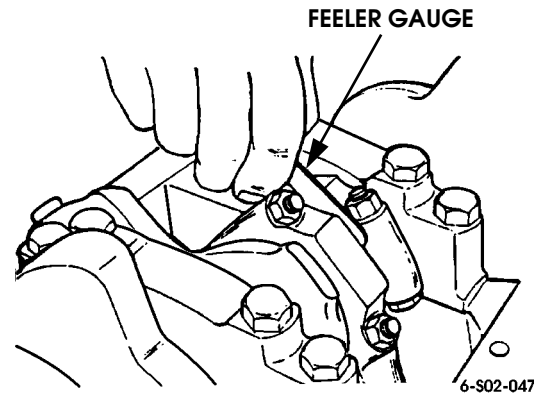

Figure 2-186: Checking Connecting Rod Side Clearance
12. Check connecting rod side play with feeler gauge (Figure 2-186). Insert gauge between connecting rods on